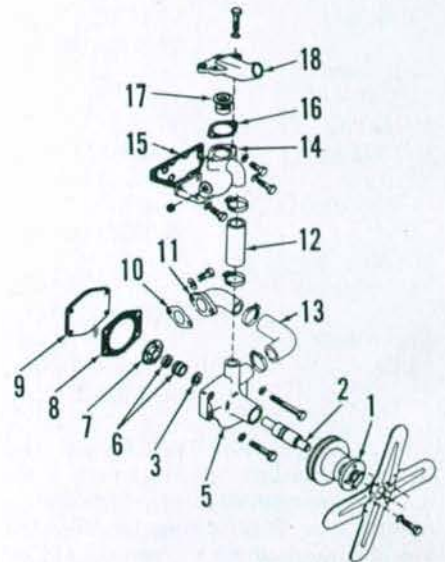

Fig. 82—Exploded view of water pump end thermostat housing.
83. **THERMOSTAT.** The thermostat (17—Fig. 82) is contained in a housing under the coolant outlet elbow (18). Thermostat should begin to open at 81°84°C (177°183°F) and should be fully open at 98°C (208°F).
To disassemble, remove back cover plate (9—Fig. 82). Remove pulley hub (1)